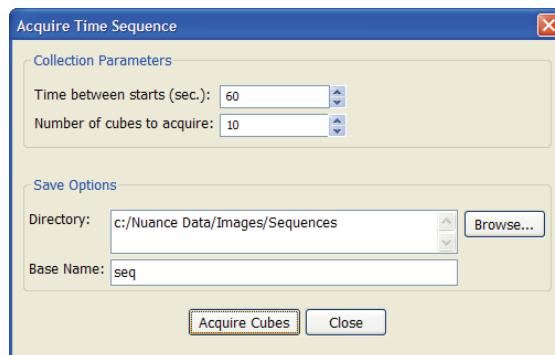

Figure 25. Acquire Time Sequence
1. Select **Tools > Acquire Time Sequence**. The **Acquire Time Sequence** dialog box opens (Figure 25).